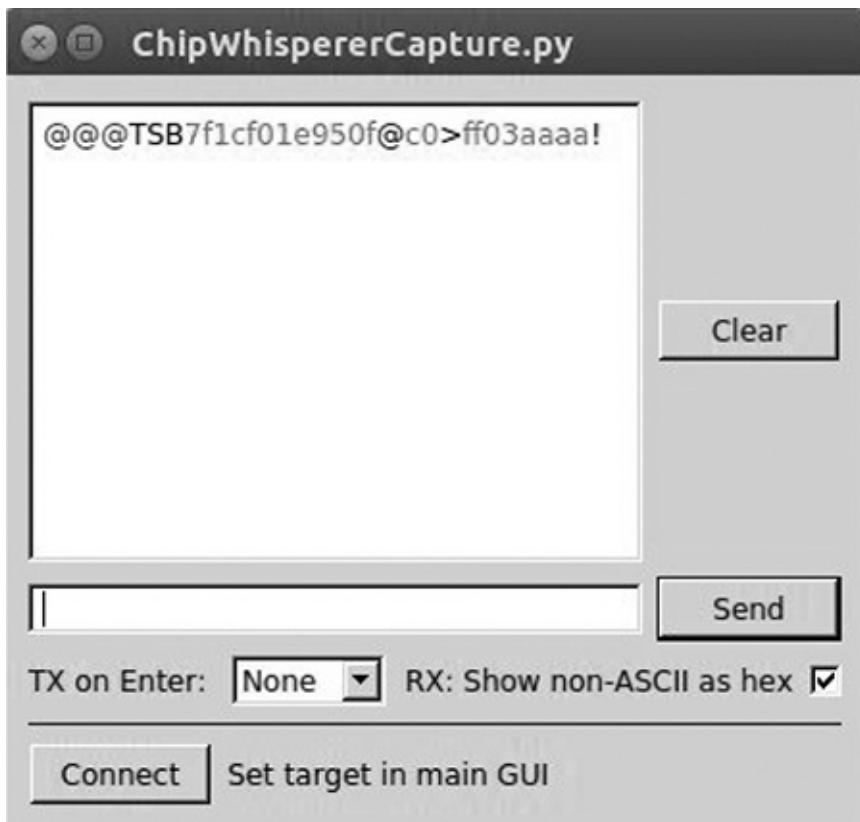

Figure 8-12: ChipWhisperer serial terminal
4. The ChipWhisperer comes with a simple serial terminal interface. Choose **Tools** ▶ **Open Terminal** to open it. You should see a terminal like the one shown in Figure 8-12.
5. Set TX on Enter at the bottom of the terminal to **None**, and check the box that says **RX: Show non-ASCII as hex** (see Figure 8-12). Now click **Connect** to enable your text areas.
6. Enter **@@@** (TinySafeBoot's start-up password) in the text field to the left of the **Send** button, and click **Send**. The bootloader should start with TSB and mainly contain information about the firmware version and AVR settings. TSB is just an identifier used by TinySafeBoot, most likely its initials. The output should match that in Figure 8-12.